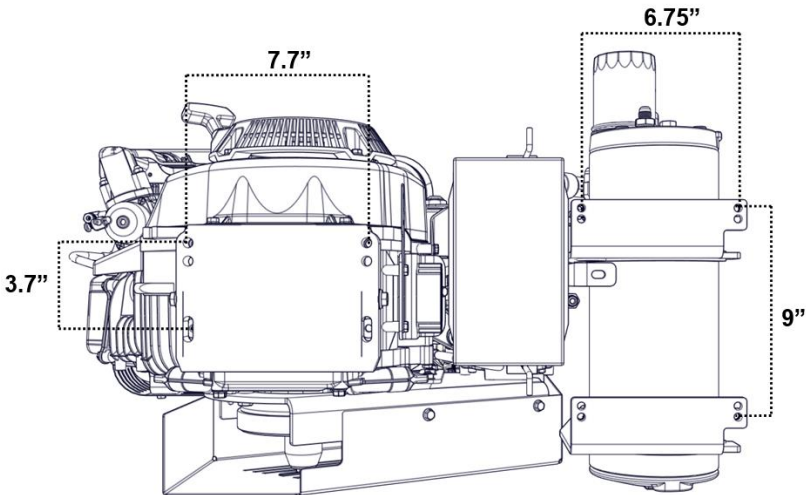

Figure 13 – Mounting without baseplate (*dimensions in inches*)
- There are four holes on the base of the engine, use the most-outer holes for mounting (two at the front, and two slotted) (Figure 13).
- There are 4 outer bolt holes on the WHASP tank which can be used as mounting bolt locations (Figure 13).